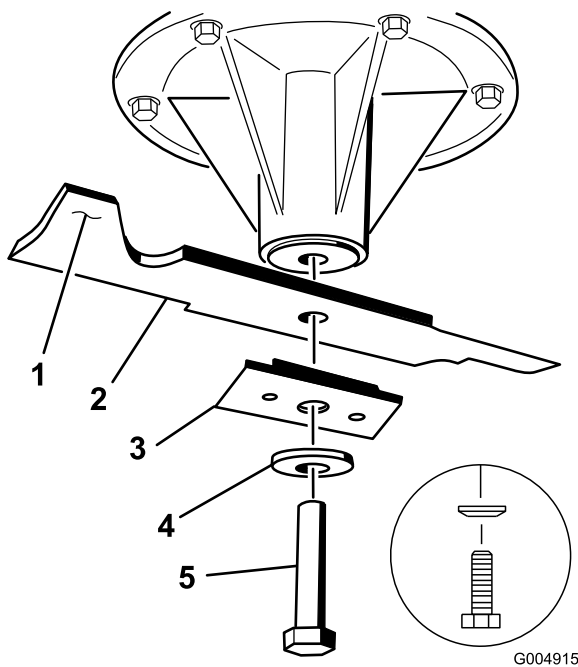

Figure 51
2. Remove the blade bolt, curved washer, blade stiffener, and blade from the spindle (Figure 51).